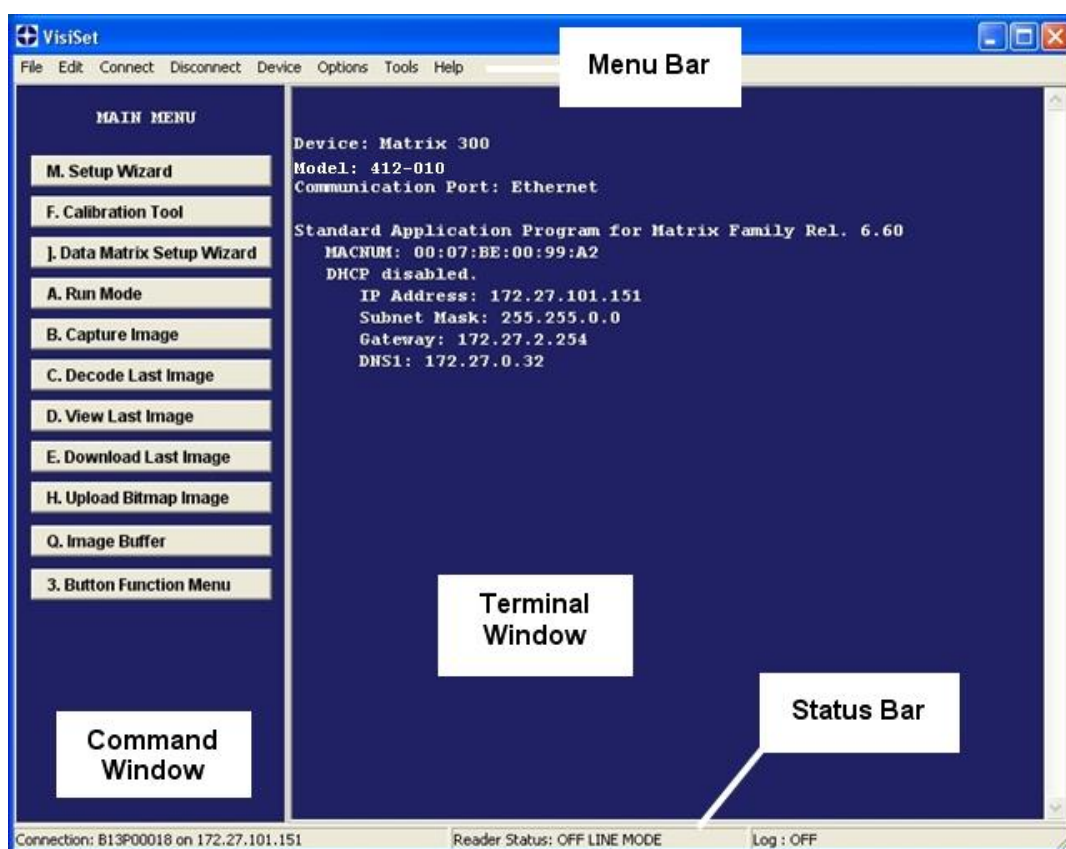

Figure 75 - Main Window
Upon connection, Matrix 300™ exits Run Mode and displays the Main Menu on VisiSet™ with all the commands necessary to monitor your reader's performance. You can select these commands using the mouse or by pressing the key corresponding to the letter shown on the button. See Figure 75.
The **Options** item from the VisiSet™ menu (see Figure 75) presents a window allowing you to configure:
6. Close the Parameter Setup window and press **Disconnect** on the VisiSet™ menu bar (see Figure 75) or launch **Run** Mode from the VisiSet™ Main menu.